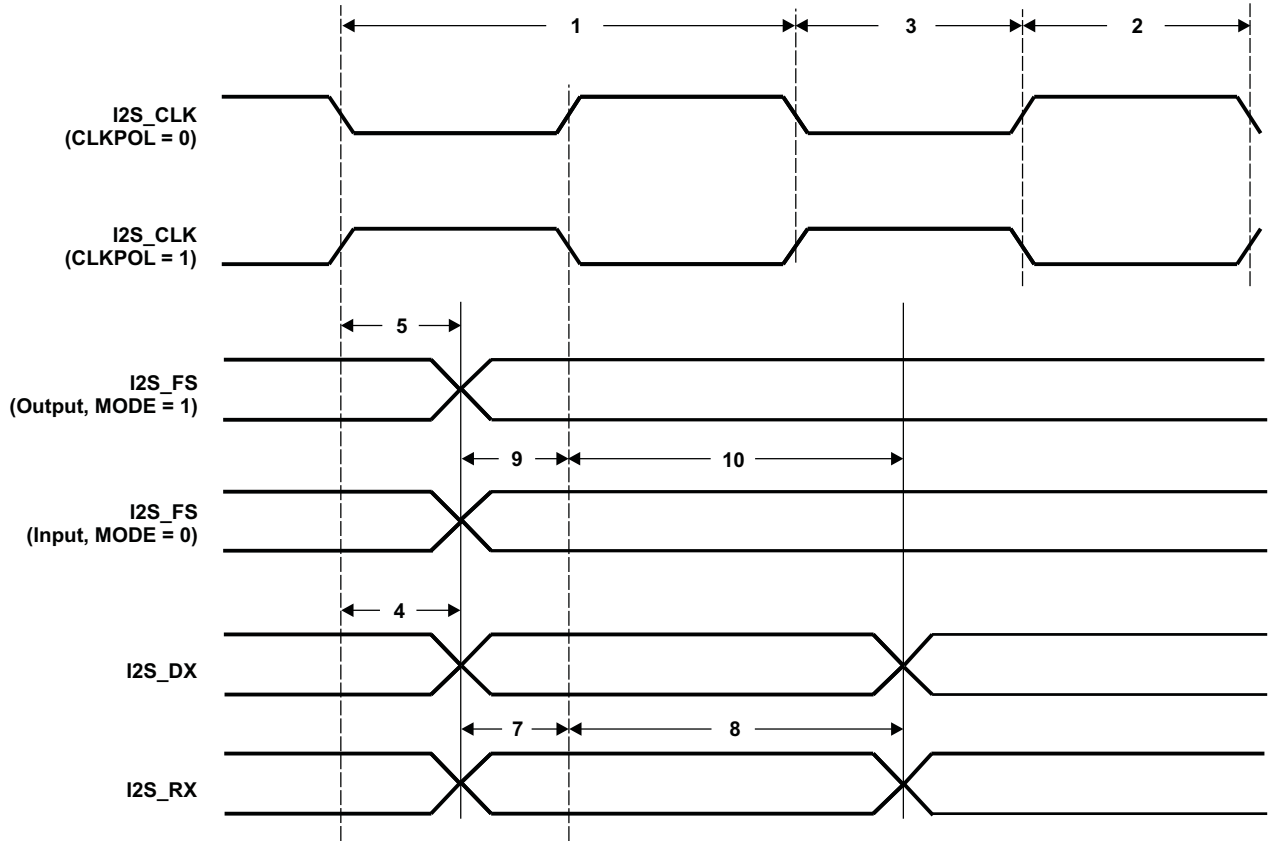

Figure 5-23. I2S Input and Output Timings
**Table 5-27. Timing Requirements for I2S [I/O = 3.3 V, 2.75 V, and 2.5 V](1) (see Figure 5-23)**
(1) P = SYSCLK period in ns. For example, when the CPU core is clocked at 100 MHz, use P = 10 ns.
(2) Use the greater value.
(3) In slave mode, I2S\_FS must be latched on both edges of I2S input clock (I2S\_CLK).
**Table 5-28. Timing Requirements for I2S [I/O = 1.8 V](1) (see Figure 5-23)**
- (1) P = SYSCLK period in ns. For example, when the CPU core is clocked at 100 MHz, use P = 10 ns.
- (2) Use the greater value.
- (3) In slave mode, I2S\_FS is required to be latched on both edges of I2S input clock (I2S\_CLK).
**Table 5-29. Switching Characteristics Over Recommended Operating Conditions for I2S Output [I/O = 3.3 V, 2.75 V, or 2.5 V] (see Figure 5-23)**
**Table 5-30. Switching Characteristics Over Recommended Operating Conditions for I2S Output [I/O = 1.8 V] (see Figure 5-23)**